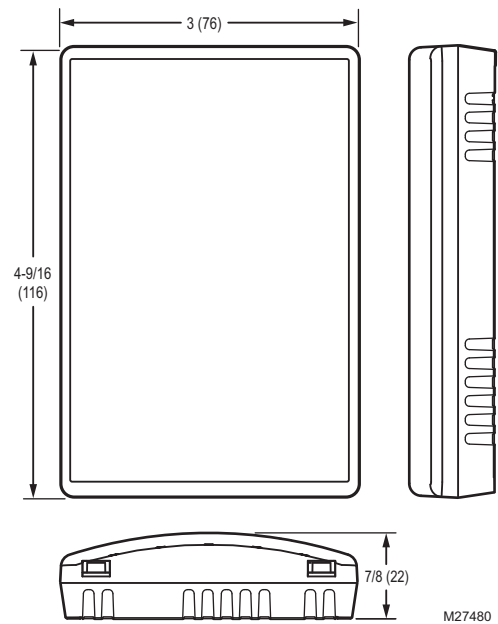

Fig. 3. TR21 indoor sensor dimensions in in. (mm).
- TR21 Remote Indoor Sensor: See Fig. 3.